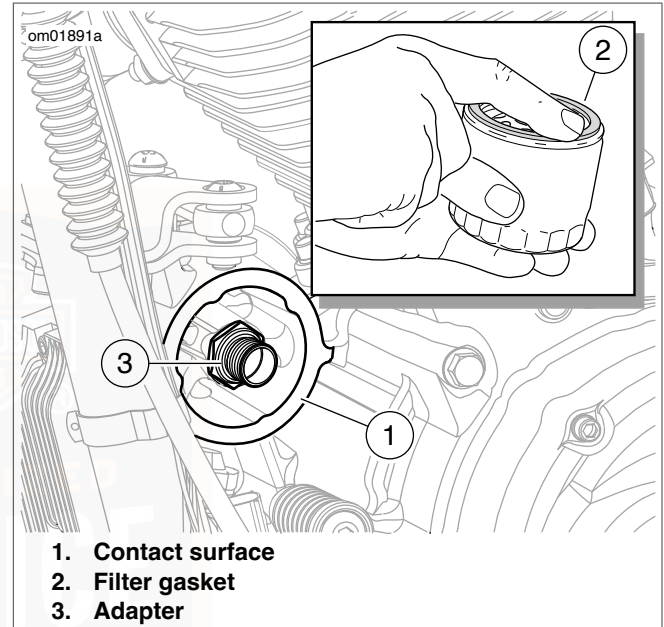

Figure 43. Installing Oil Filter
3. See Figure 43. Wipe oil filter mount contact surface (1) with a clean cloth. Surface must be smooth and free of debris or old gasket material.
4. Apply a thin film of oil to contact surface of the oil filter mount and filter gasket (2) of **new** oil filter.